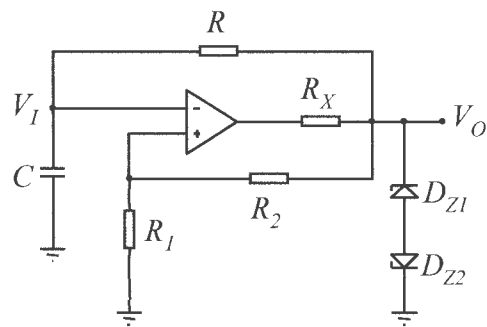

Figure 1b
- c. Sketch and label the waveforms one would expect to observe at the inverting and non-inverting inputs of the operational amplifier and at node V_O of the astable oscillator circuit shown in Figure 1b. (5)
- d. Show that the period of oscillation of the astable circuit of Figure 1b is given by,